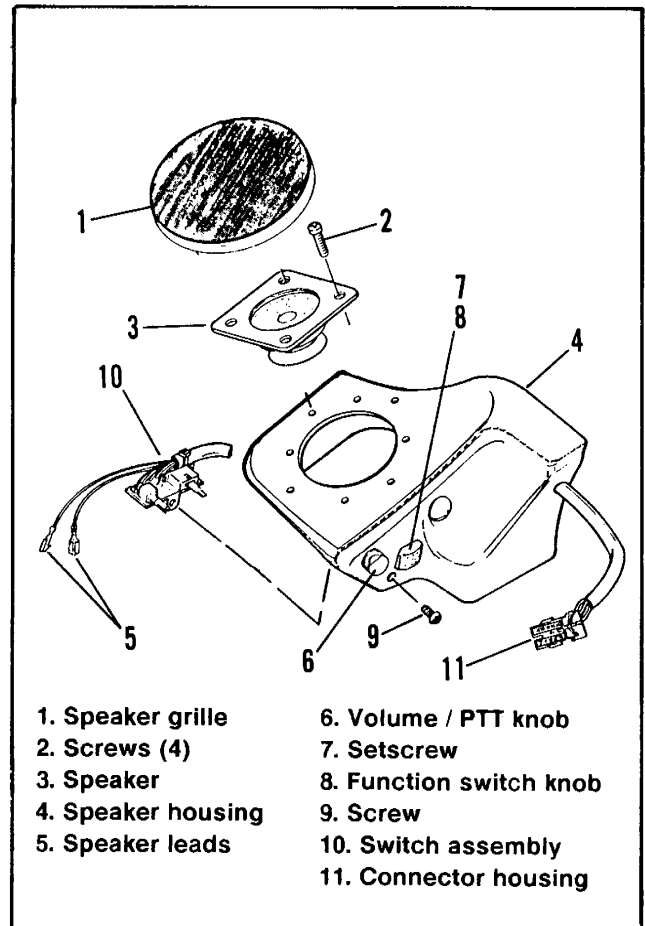

Figure 8-58. Rear Speaker Housing
1. See Figure 8-58. Remove speaker grill assembly (1) by gently prying the assembly off the four double-ended clips (Christmas tree fasteners) with a wide, thin bladed screwdriver.
2. Remove the four screws (2) securing the speaker, gently remove speaker (3) from housing (4) and disconnect speaker leads (5).
3. Remove Volume/PTT knob by gently pulling knob off switch shaft. Remove setscrew (7) from the function switch knob (8). A 1.5 millimeter hex wrench is needed to remove setscrew (7) on early 1989 models that have the same knob as the handlebar switch. Slide knob off switch.
4. Remove screw (9) to loosen switch assembly (10) and using Pin Terminal Tool, HD-97362-71, remove all wires from pin connector housing (11).